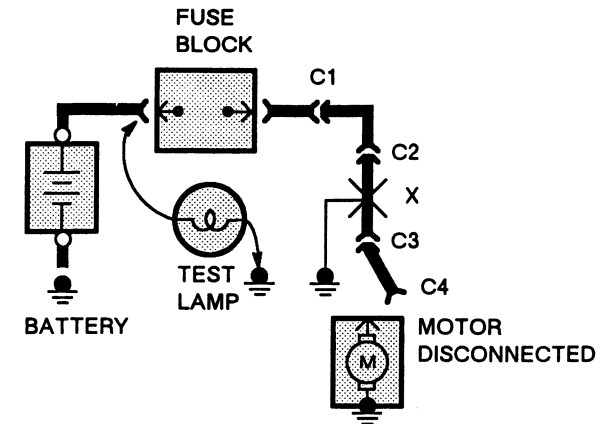

Figure 5—Short Check
A fuse that repeatedly blows is usually caused by a short to ground. It's important to be able to locate such a short quickly (Figure 5).
- Motors: disconnect motor connector (Connector C4 in Figure 5)
5. Disconnect the test lamp lead that is connected to ground, and reconnect it to the load side of the fuse at the connector of the disconnected component. (In Figure 5, connect the test lamp lead to connector C4.)
- If the Test Lamp goes on, the short is in the wiring. You must find the short by disconnecting the circuit connectors, one at a time, until the Test Lamp goes out. For example, in figure 5 with a ground at X, the bulb goes out when C1 or C2 is disconnected, but stays on after disconnecting C3. This means the short is between C2 and C3.